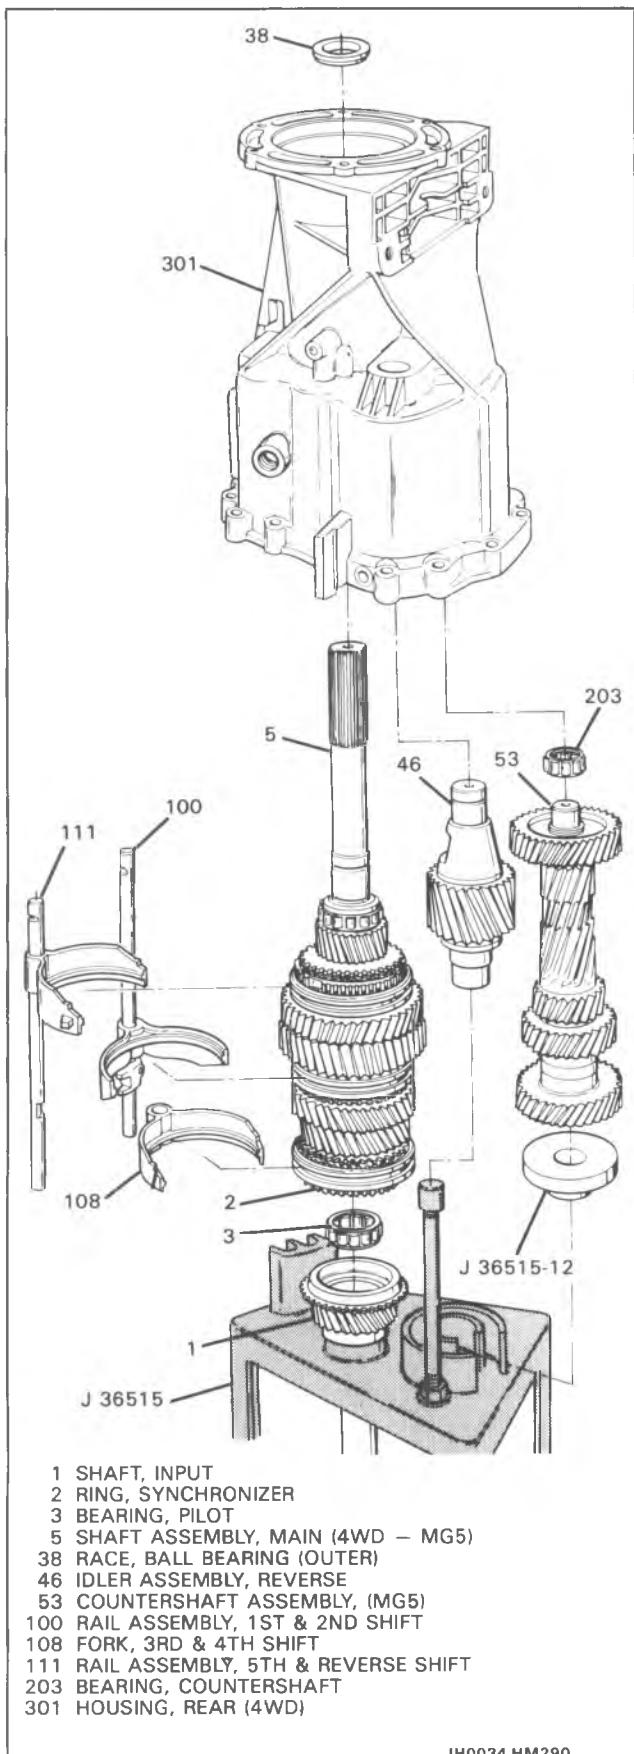

Figure 24 Removing 4WD Rear Housing
- 2. Snap ring (43).
- 3. Threaded thrust ring - inner (41), ball (40) and threaded thrust ring - outer (39).
- Turn J 36516 clockwise till both threaded thrust rings (39) and (41) are completely apart.
- 4. 4WD Rear Housing Assembly (301) (Figure 24).
- Save the ball bearing outer race (38) that will be left in the rear housing.
- 5. Countershaft bearing (203).
- 6. Countershaft (53).
- 7. Reverse idler assembly (46).
- 8. 5th and reverse shift rail assembly (111), 1st and 2nd shift rail assembly (100) and 3rd and 4th shift fork (108).